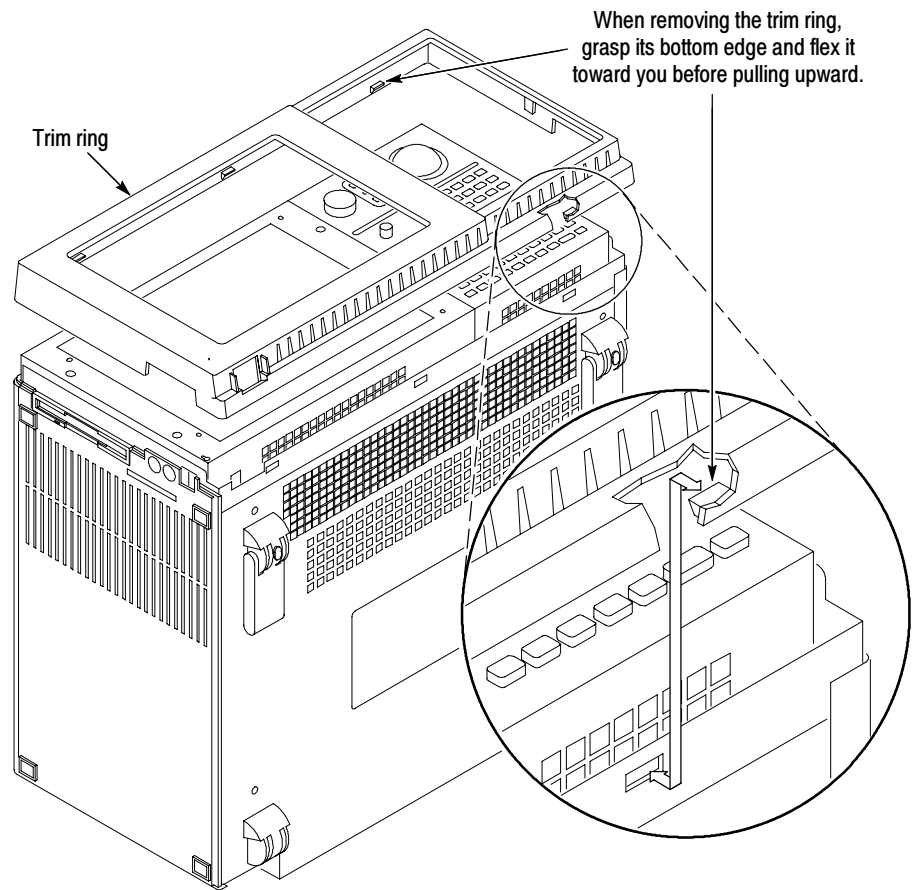

Figure 1: Trim ring removal
2. Use the spudger tool to detach the three plastic snaps from the bottom cover (see Figure 1). Then, swing the bottom of the ring upward and work the rest of the ring off the front panel.